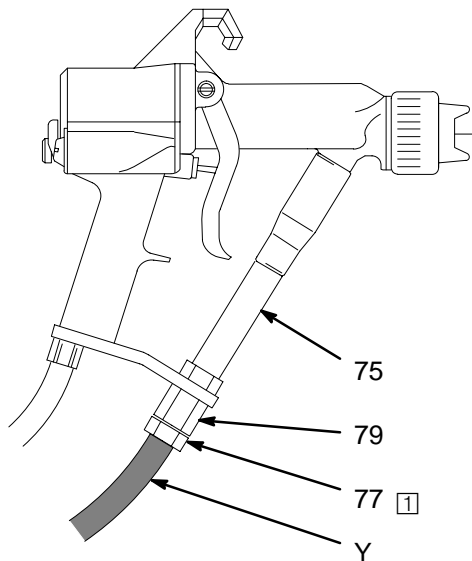

Fig. 5
2. Inspect the condition of the o-rings (G) on the hose barbed-fitting. Replace the o-rings if they are worn or damaged.
3. Unscrew the hose ferrule housing (79) from the gun fluid inlet fitting, and slide the nut onto the barbed-end of the hose. Refer to Fig. 5.
5. Insert the hose (Y) into the hose ferrule housing (79). See Fig. 5.
6. Push the hose firmly through the fluid inlet tube (75) until the o-rings on the hose barbed fitting are seated and the hose bottoms out.
7. Tighten the hose ferrule (77) firmly with a wrench to about 50 in-lb (5.6 N•m). Pull back on the hose to make sure it is secure. If not, disconnect the hose and inspect it for damage. Check the hose connection periodically for signs that the hose is loosening.
KEY- Fig. 5